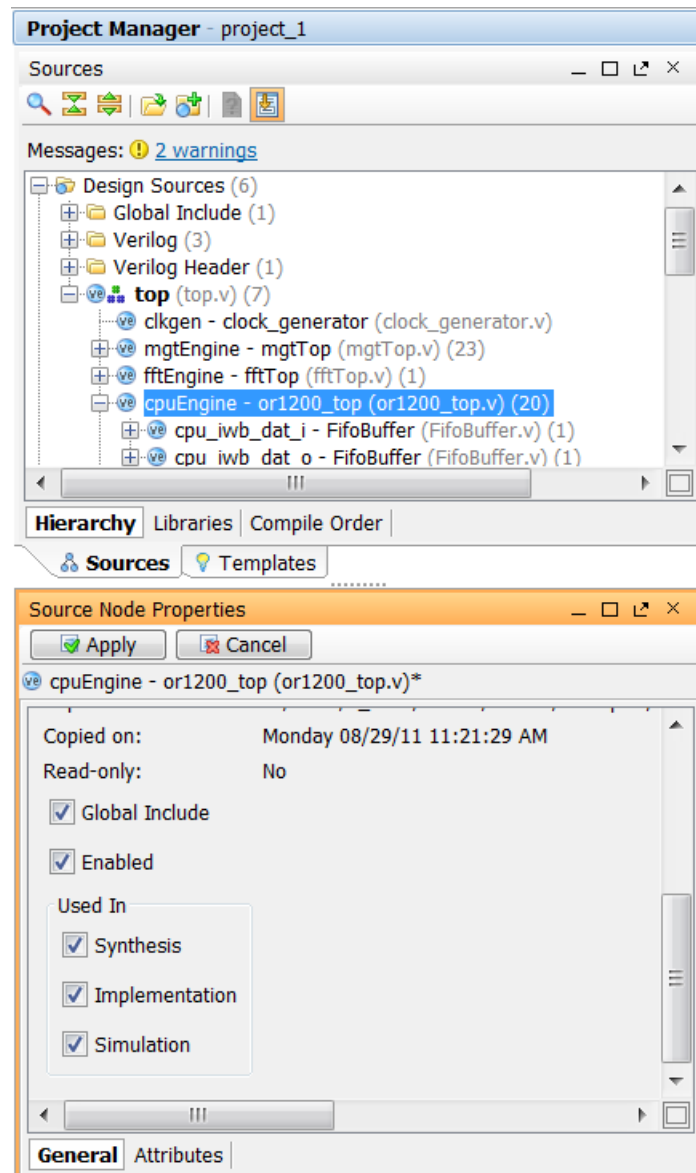

Figure 7: Source Node Properties Window
2. Select the **Set Global Include** command, or use the **Global Include** checkbox in the Source File Properties window, as shown in Figure 7.